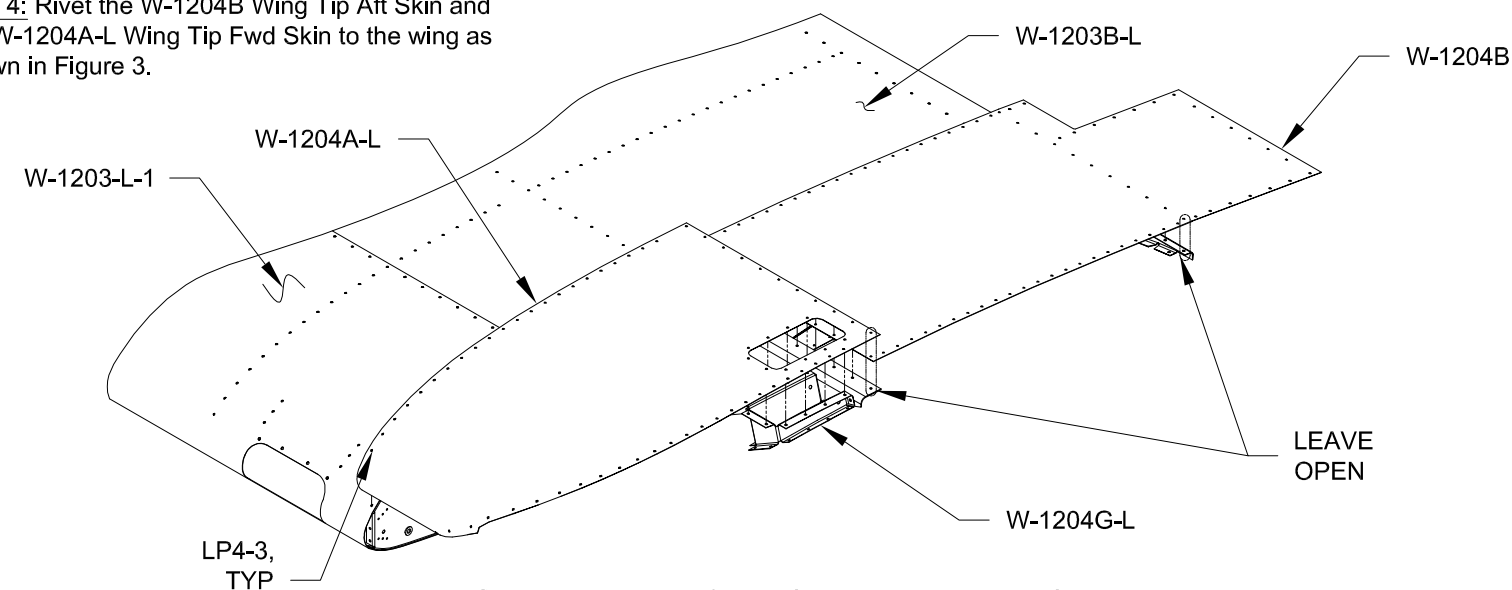

FIGURE 3: ATTACHING THE FWD WING TIP RIB
Step 4: Rivet the W-1204B Wing Tip Aft Skin and the W-1204A-L Wing Tip Fwd Skin to the wing as shown in Figure 3.